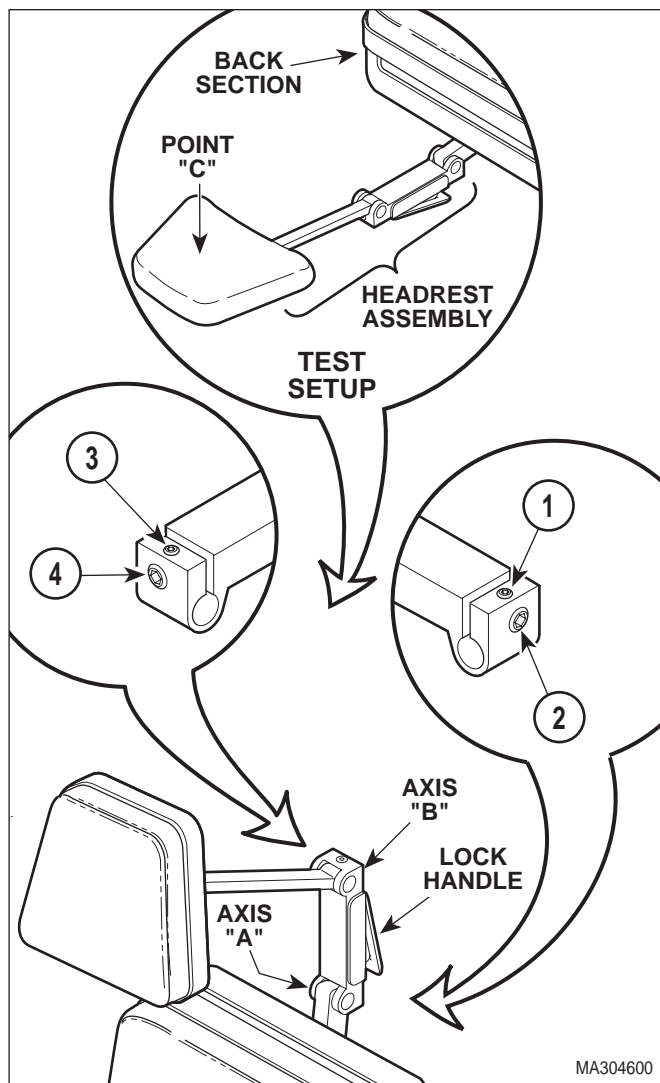

Figure 4-25. Headrest Adjustment
- (1) Unlock the lock handle (See Figure 4-25).
- (2) Loosen setscrew (1, Figure 4-25).
- (3) Tighten adjusting screw (2) slightly; then lock the lock handle. Repeat this step until Axis A has the strongest possible holding power, but operation of lock handle is not too difficult.
- (4) Tighten setscrew (1).
- (5) Unlock the lock handle.
- (6) Loosen setscrew (3).
- (7) Tighten adjusting screw (4) slightly; then lock the lock handle. Repeat this step until Axis B has the strongest possible holding power, but operation of lock handle is not too difficult.
- (8) Tighten setscrew (3).
- (9) Lower BACK DOWN function all the way down.